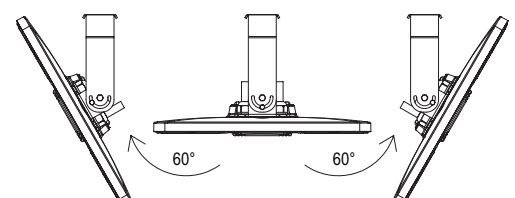

Figure 8
Step4. After fixed, choose a suitable waterproof junction box and make connections according to local standards and codes. After installation is finished, the luminaire can be adjusted to maximum 60 degrees left or right on demand. (Figure 8)